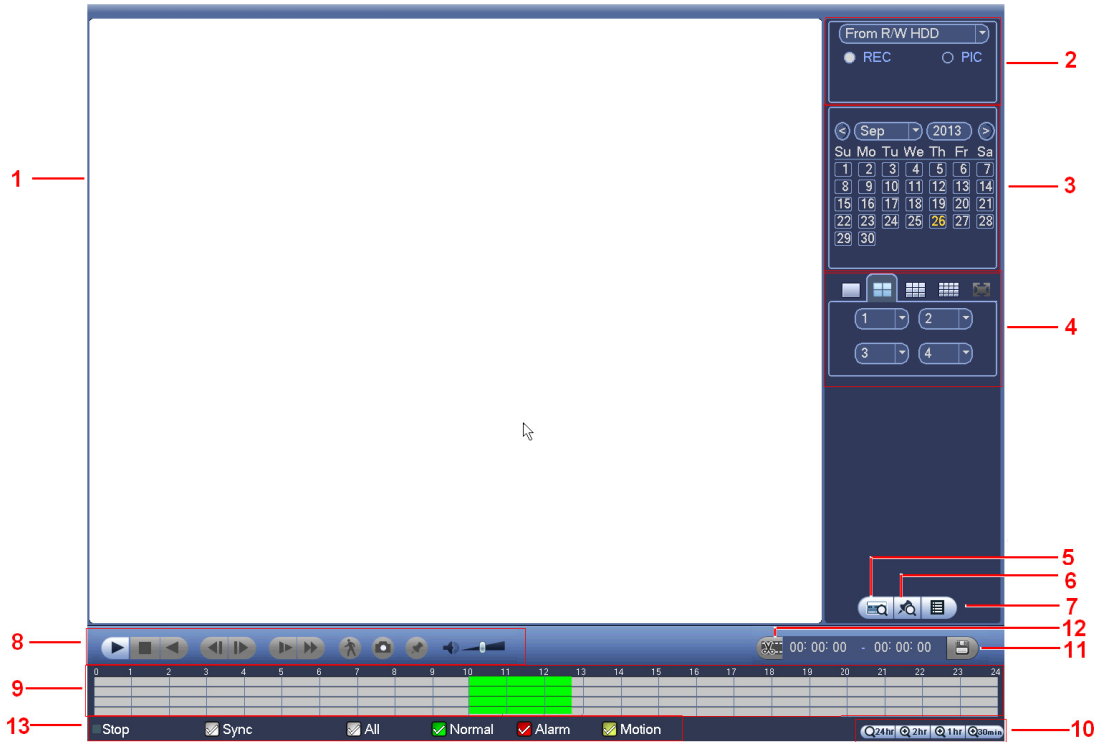
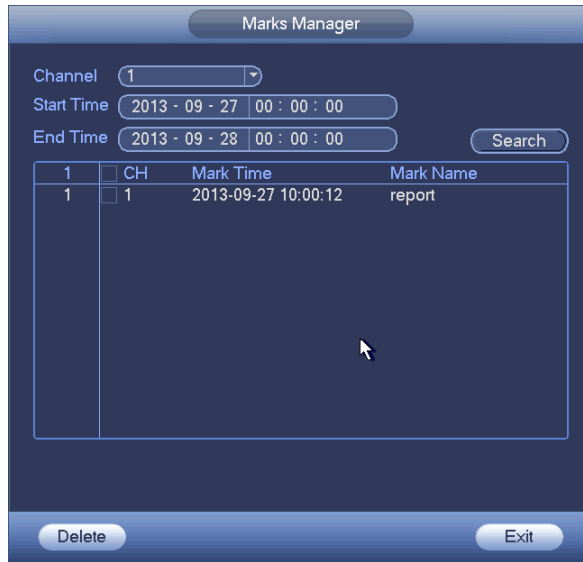

Figure 4-71
Figure 4-75
From Main menu->Search, or on the preview interface right click mouse and then select search item, you can go to the following interface. See Figure 4-71.
Please make sure your purchased device support this function. You can use this function only if you can see the mark playback icon on the Search interface (Figure 4-71).
During 1-window playback mode, click mark file list button  in Figure 4-71, you can go to mark file list interface. Double click one mark file, you can begin playback from the mark time.
Click the mark manager button  on the Search interface (Figure 4-71); you can go to Mark Manager interface. See Figure 4-75. System can manage all the record mark information of current channel by default. You can view all mark information of current channel by time.
- a) From Main menu->Search, or on the preview interface right click mouse, you can go to Figure 4-71.